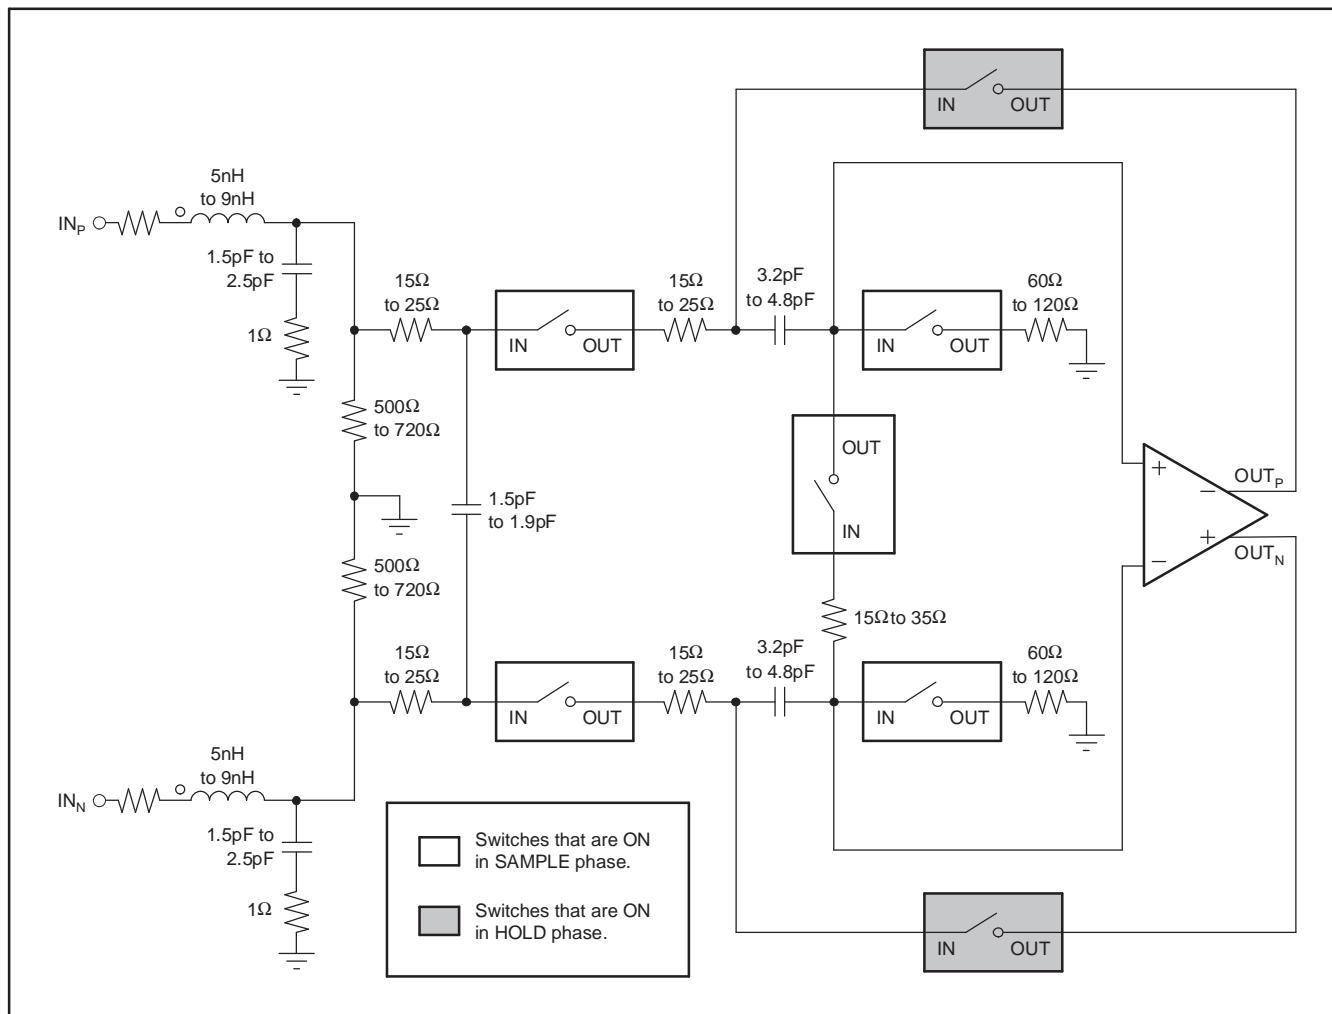

Figure 14. Overall Structure of the Sample-and-Hold Circuit
Figure 14 shows a detailed RLC model of the sample-and-hold circuit. The circuit operates in two phases. In the sample phase, the input is sampled on two capacitors that are nominally 4pF. The sampling circuit consists of a low-pass RC filter at the input to filter out noise components that might be differentially coupled on the input pins. The next phase is the hold phase wherein the voltage sampled on the capacitors is transferred (using the amplifier) to a subsequent pipeline ADC stage.
• Changed Figure 14.....	<a href="#">16</a>